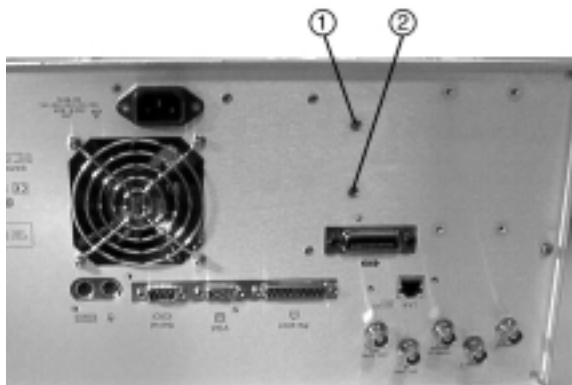

Figure 3-77. Removing the screws fastening the optical assembly to the rear panel
- 8 Remove the two screws fastening the optical assembly to the rear panel. See ① and ② in Figure 3-77 below.